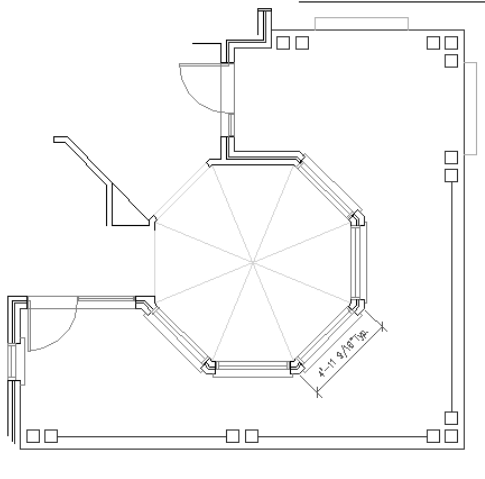

**Figure 14-10:** The house plan with an aligned dimension.
4. Save your drawing. It should look like Figure 14-10.